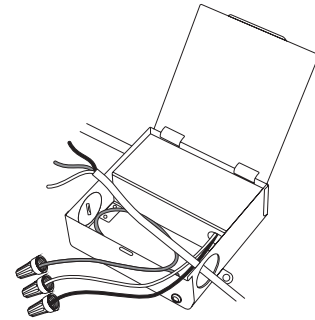

Fig. 3
7. Insert Junction box through the mounting hole. (Fig. 3)